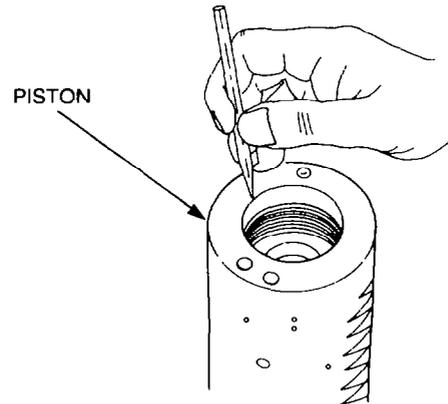

Figure 272 — Marking Adjusting Nut and Piston
- m. Match mark the lower adjusting nut and the piston to assist during reassembly (see Fig. 272).